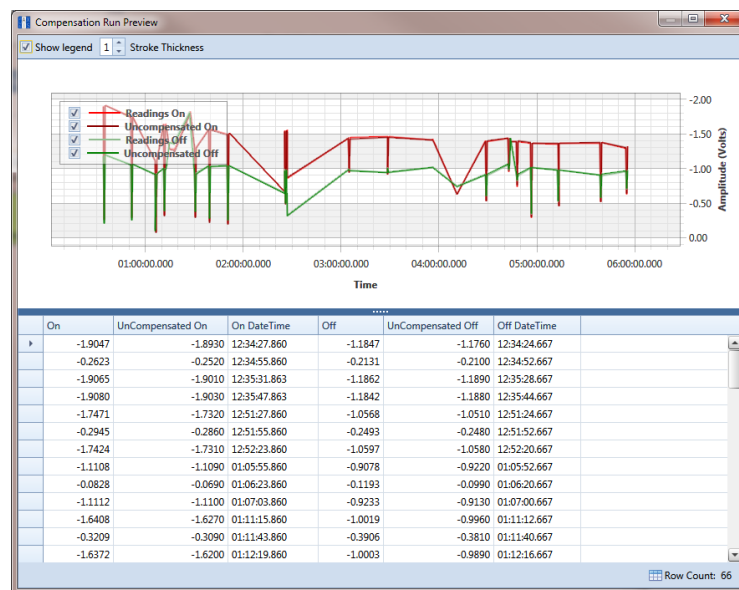

Figure 14-24. Compensation Run Preview
- d When the compensation process completes, click  **Preview** to view a graph of compensation results (Figure 14-24).